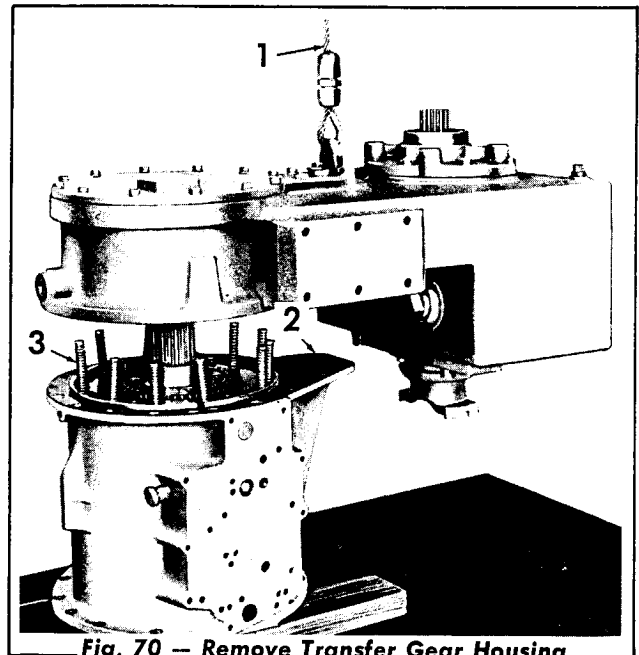

Fig. 70 — Remove Transfer Gear Housing
8. Attach a lifting sling (Fig. 70) to the center of the transfer gear housing and raise the transfer gear housing assembly. Remove the gasket. Remove the twelve low range springs and the spring guides.